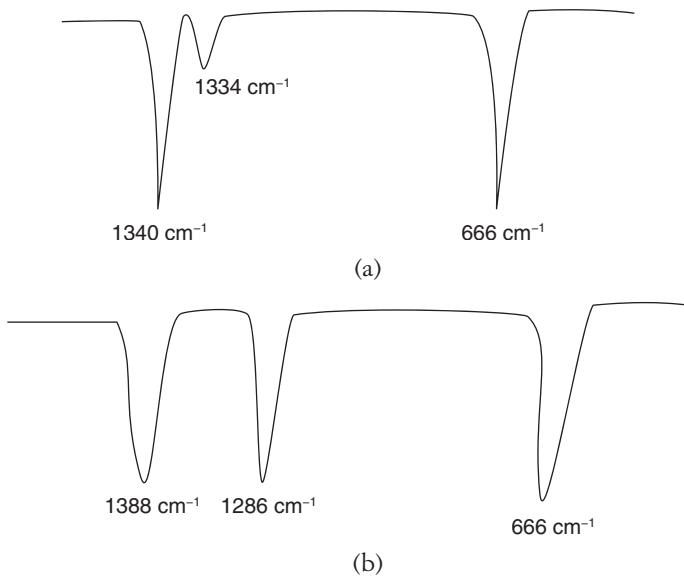

Figure 18 IR spectrum for CO_2 : (a) Without Fermi resonance (\times) and (b) with Fermi resonance (\backslash).
- In CO_2 molecule:** For CO_2 , the fundamental bending vibration occurs near 666 cm^{-1} and the first overtone near 1334 cm^{-1} . So, the IR spectrum, if no Fermi resonance was taking place would be as shown in Figure 18(a). However, the spectrum of CO_2 molecule observed is as shown in Figure 18(b). The symmetrical stretching of CO_2 (zero dipole moment) appears in Raman spectrum near 1340 cm^{-1} . On closer examination, two bands are observed, one at 1286 cm^{-1} and one at 1388 cm^{-1} . The splitting results from coupling between the fundamental C=O stretching; vibrations, near 1340 cm^{-1} and the first overtone of the bending vibration near 1334 cm^{-1} .